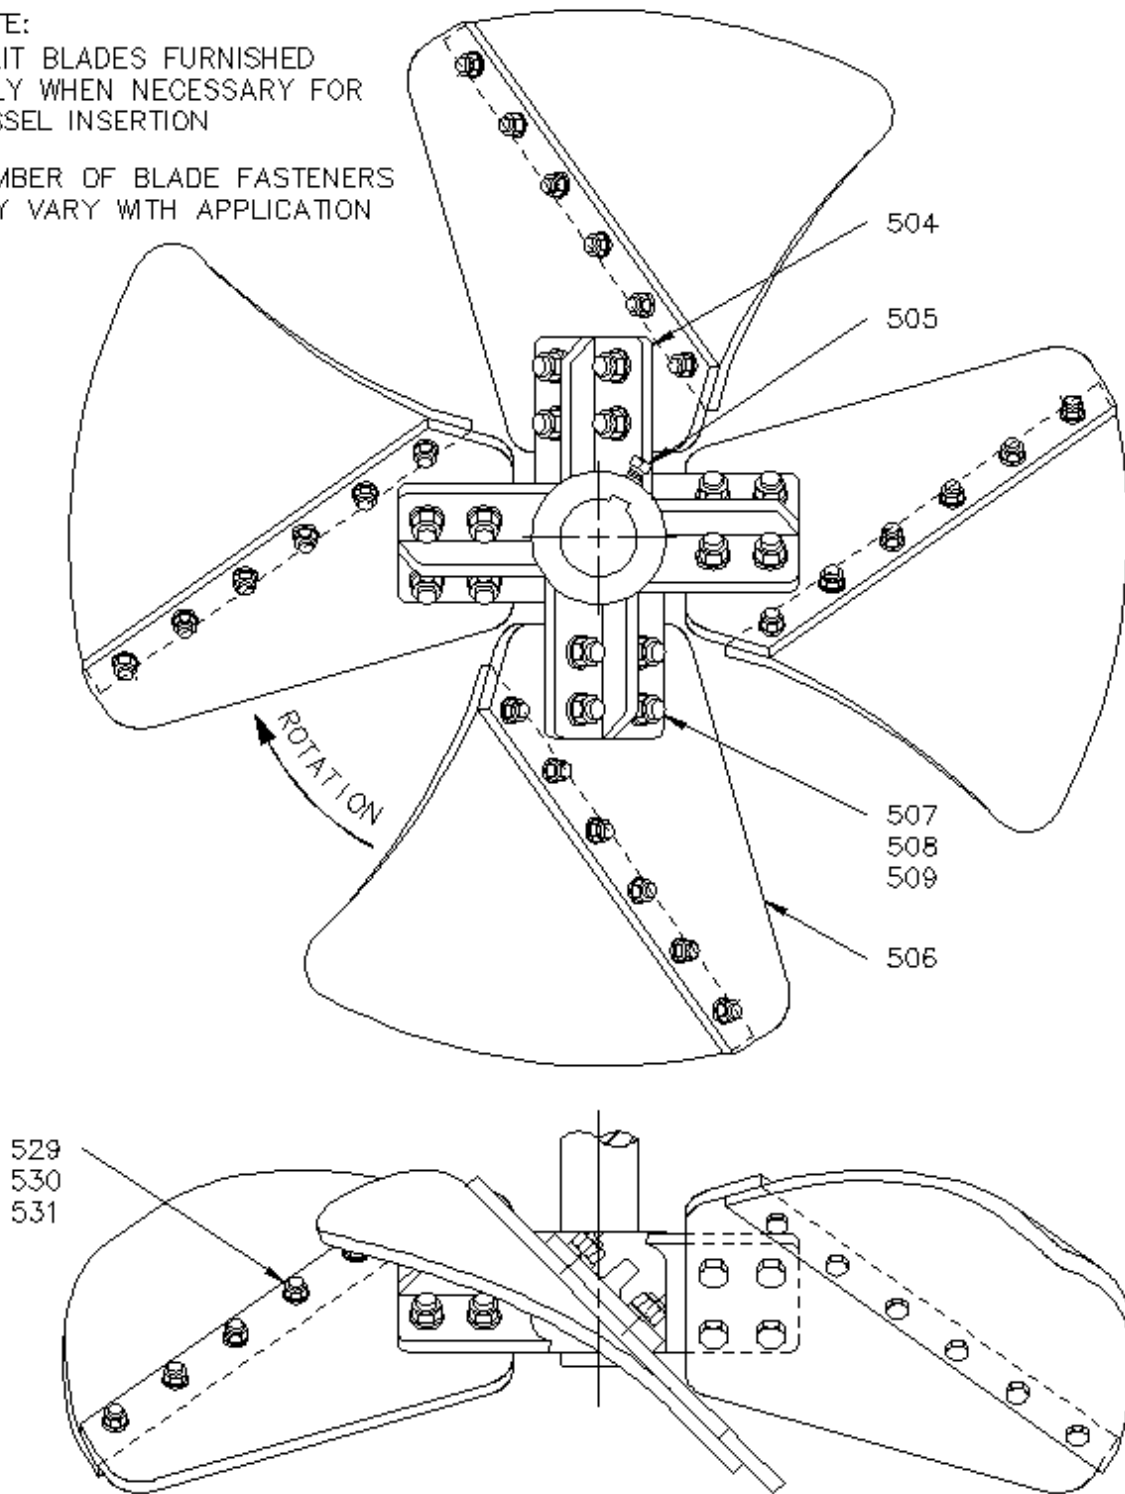

Figure 21. Style Maxflo W Impeller
4. Bolt extension blades [506] to the hub [504] with bolts, nuts and lockwashers [507, 509, 508]. Refer to Figure 15 through Figure 21, page 35 through 41. Bolt split blades, if furnished, to extension blades with bolts, nuts and lockwashers [529, 531, 530]. Bolt stabilizer fins [510], if furnished, to extension blades with bolts, nuts, and lockwashers [511, 513, 512]. Torque bolts to the value shown in Table 12, page 89.